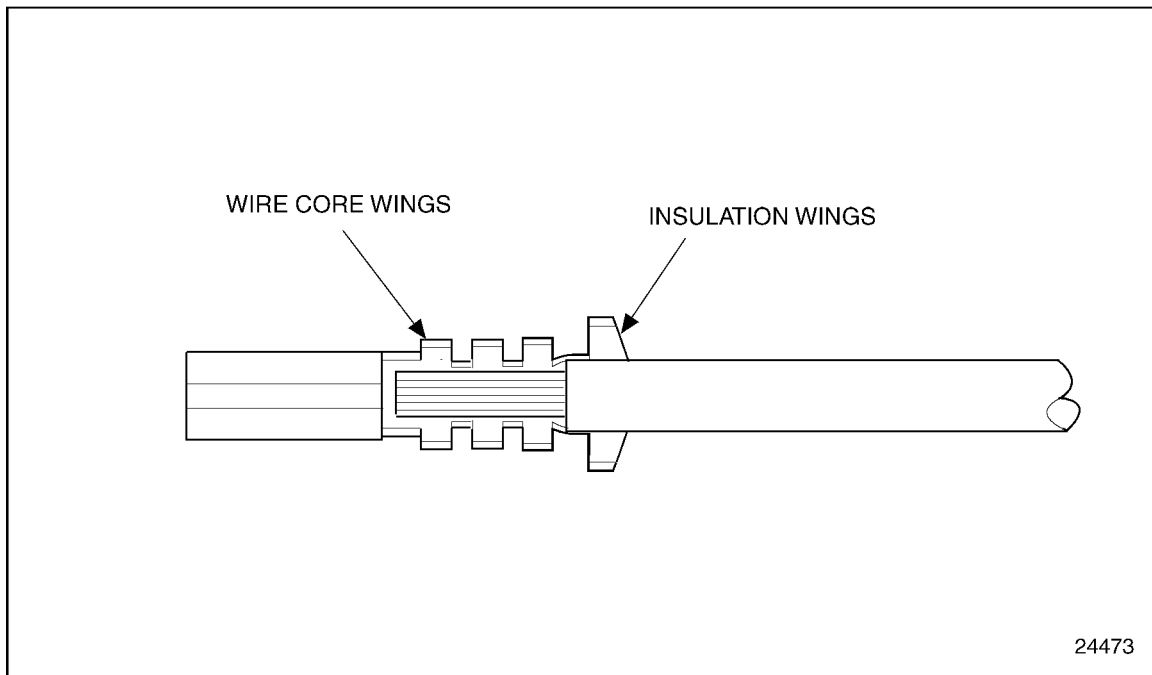

Figure 8-3 Cable to Terminal Alignment
6. Insert the cable into the terminal until the stripped portion is positioned in the wire core wings, and the insulation portion ends just forward of the insulation wings. See Figure 8-3.